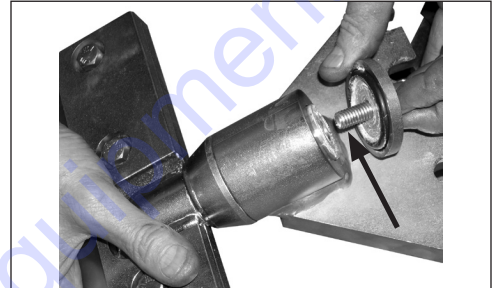

FIG. 8.1
4. Secure with retainer cap (Figure 8.1).